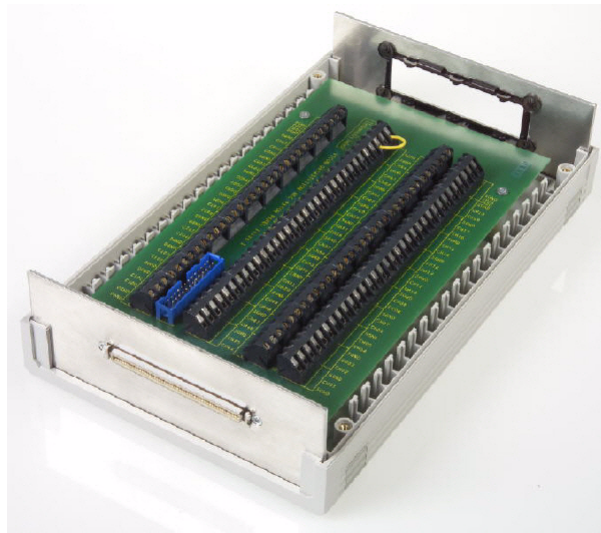

Figure A-6: Vicon patch panel
3. Remove the four M3 Pozidrive screws on the lid of the box to expose the patch panel, shown in Figure A-6.